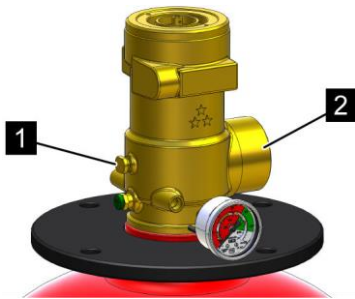

Fig. 46: Valve
1. ➔ Ensure that the anti-recoil cap on the valve outlet (Fig. 46/2) and the blind plug on the control outlet (Fig. 46/1) are attached.